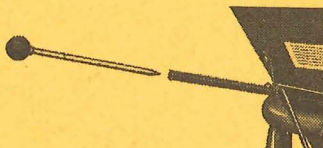

Fig. 7
7. When spreading damp or powdery material the bent blades should be adjusted as described in Paragraph C. Ensure that the blades are returned to normal position (N) when spreading granular fertilizer.
8. When spreading damp and well-stored fertilizer it is advisable to remove all excess fertilizer which is clinging to the bottom of the hopper and to the deflector plates and spreading blades. by the hopper opening, using the extension of the side lever (Fig. 7).